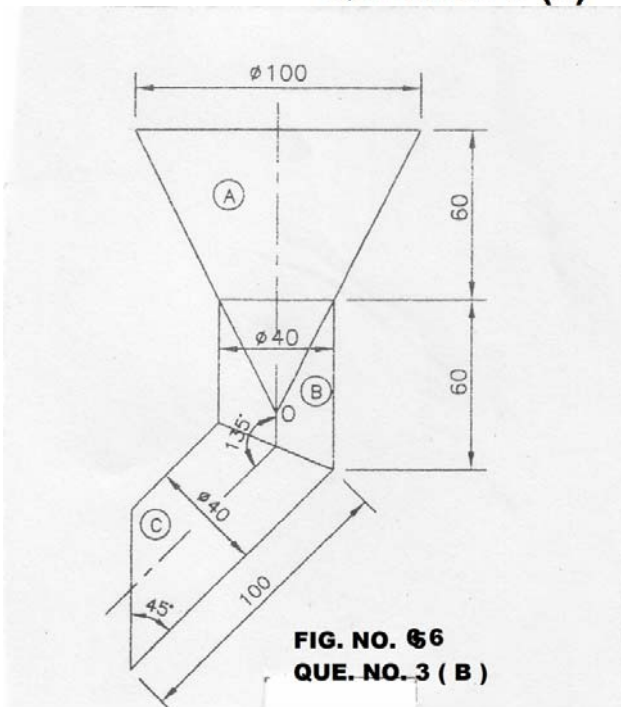

FIG. NO. 6
- Q.3** (a) Front view of a Funnel is shown in FIG. NO.6. Draw the development of lateral surfaces of the parts "A" and part "B" of the funnel.